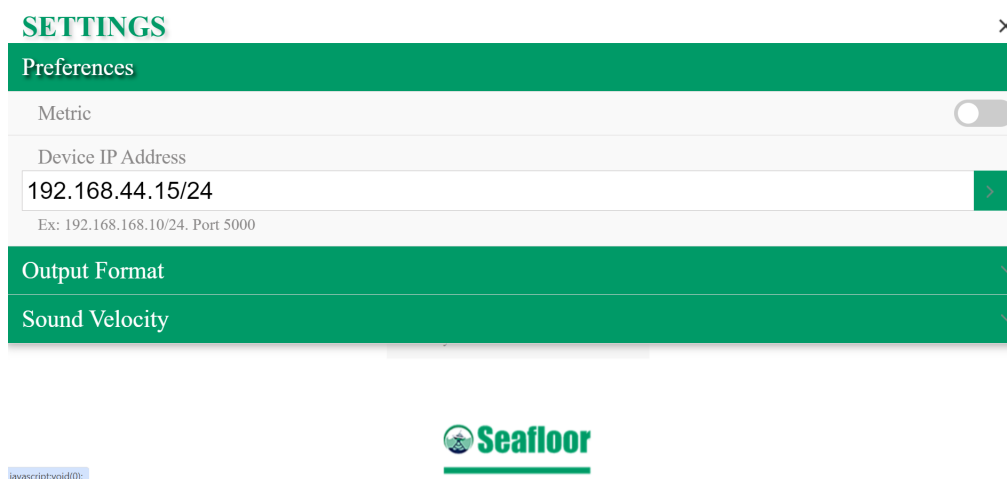

Figure 13: UI Preferences
- Can activate Metric or leave it unchecked for Imperial (Figure 13). Does not change output format, only the display of the WebUI depth.